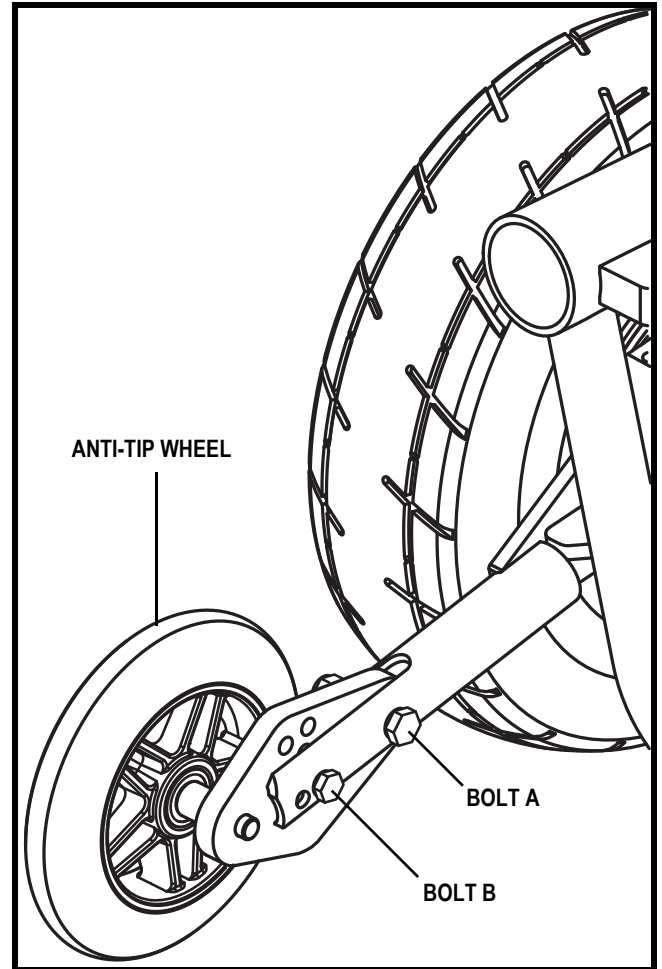

Figure 24. Anti-tip Wheel Assembly
1. Loosen bolt A. See figure 24.